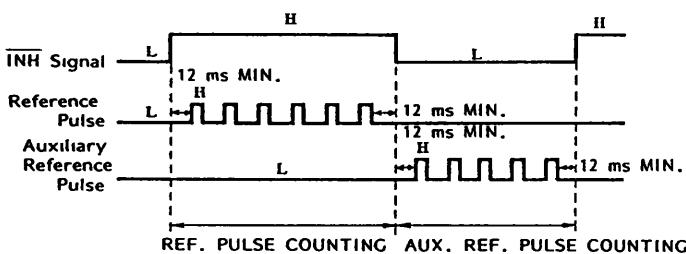

Fig 6.4 Timing of INH, Reference Pulse and Auxiliary Reference Pulse Signals
(2) INH (INHIBIT) signal
- Where the auxiliary reference pulse signal and reference pulse signal are used by switching alternately, set INH signal to "L." Then the error counter can be counted at auxiliary pulse input. See Fig. 6.4 for the timing.